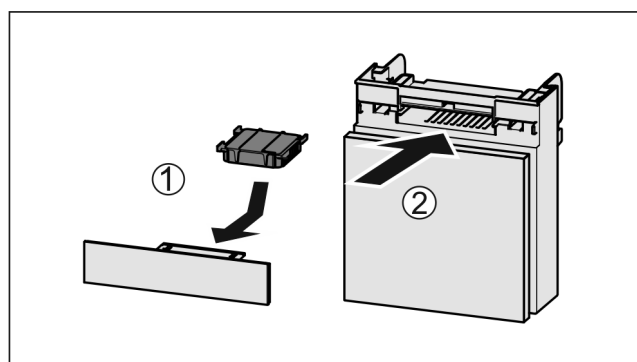

Fig. 256
- ▶ Insert the carbon filter as shown in the diagram Fig. 256 (1).
- ▶ Push the compartment in Fig. 256 (2).